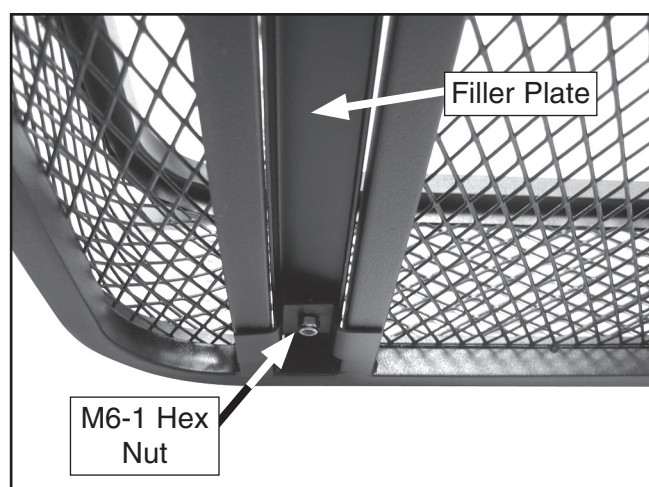

Figure 3. Filler plate installation.
1. Secure the filler plate to the basket using the M6-1 x 16 screws, the filler plate clamps, and two M6-1 lock nuts, as shown in **Figures 3** and **4**.